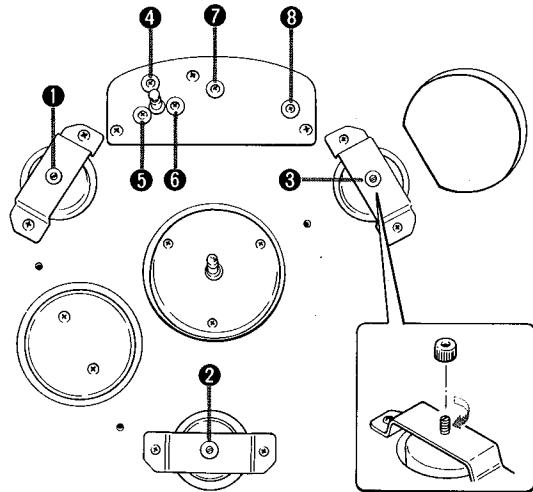

Fig. 4
④ CHASSIS ASSEMBLY REMOVAL
1. Remove the pick-up assembly. (Refer to step ③)
3. Remove nuts ① to ③ in Fig. 4 and then remove the chassis assembly by turning the central screws of nuts clockwise.
⑤ MOTOR REMOVAL
2. Remove screws ④ to ⑥ in Fig. 4 and then remove the motor.
⑥ POWER TRANSFORMER REMOVAL
2. Remove screws ⑦ and ⑧ in Fig. 4 and then remove the power transformer.